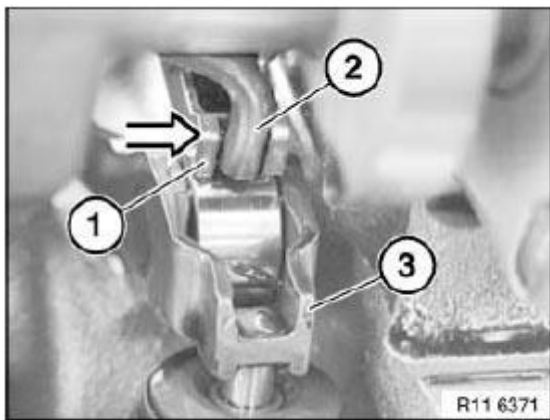

Fig. 605: Inserting Torsion Spring On Intermediate Lever
Insert torsion spring (2) in intermediate lever (1) (see arrow in **Fig. 605**).